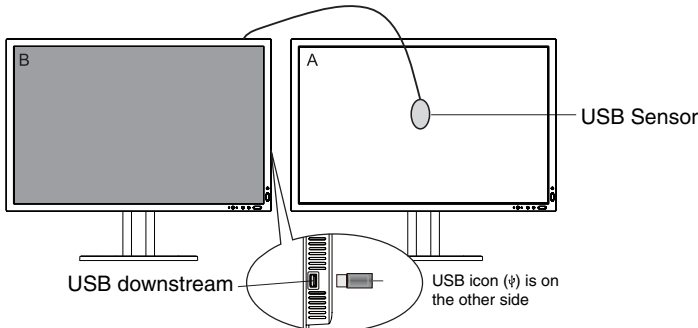

Figure C.1
3. Plug-in the USB sensor to the side (or bottom when Portrait orientation) USB downstream port (Figure C.1).
8. The procedure will ask for the USB sensor to be placed on the center of the display panel (**Figure C.8**). Tilt the display panel approximately 5° backward and place the USB sensor in the center of the display panel (**Figure C.1**).